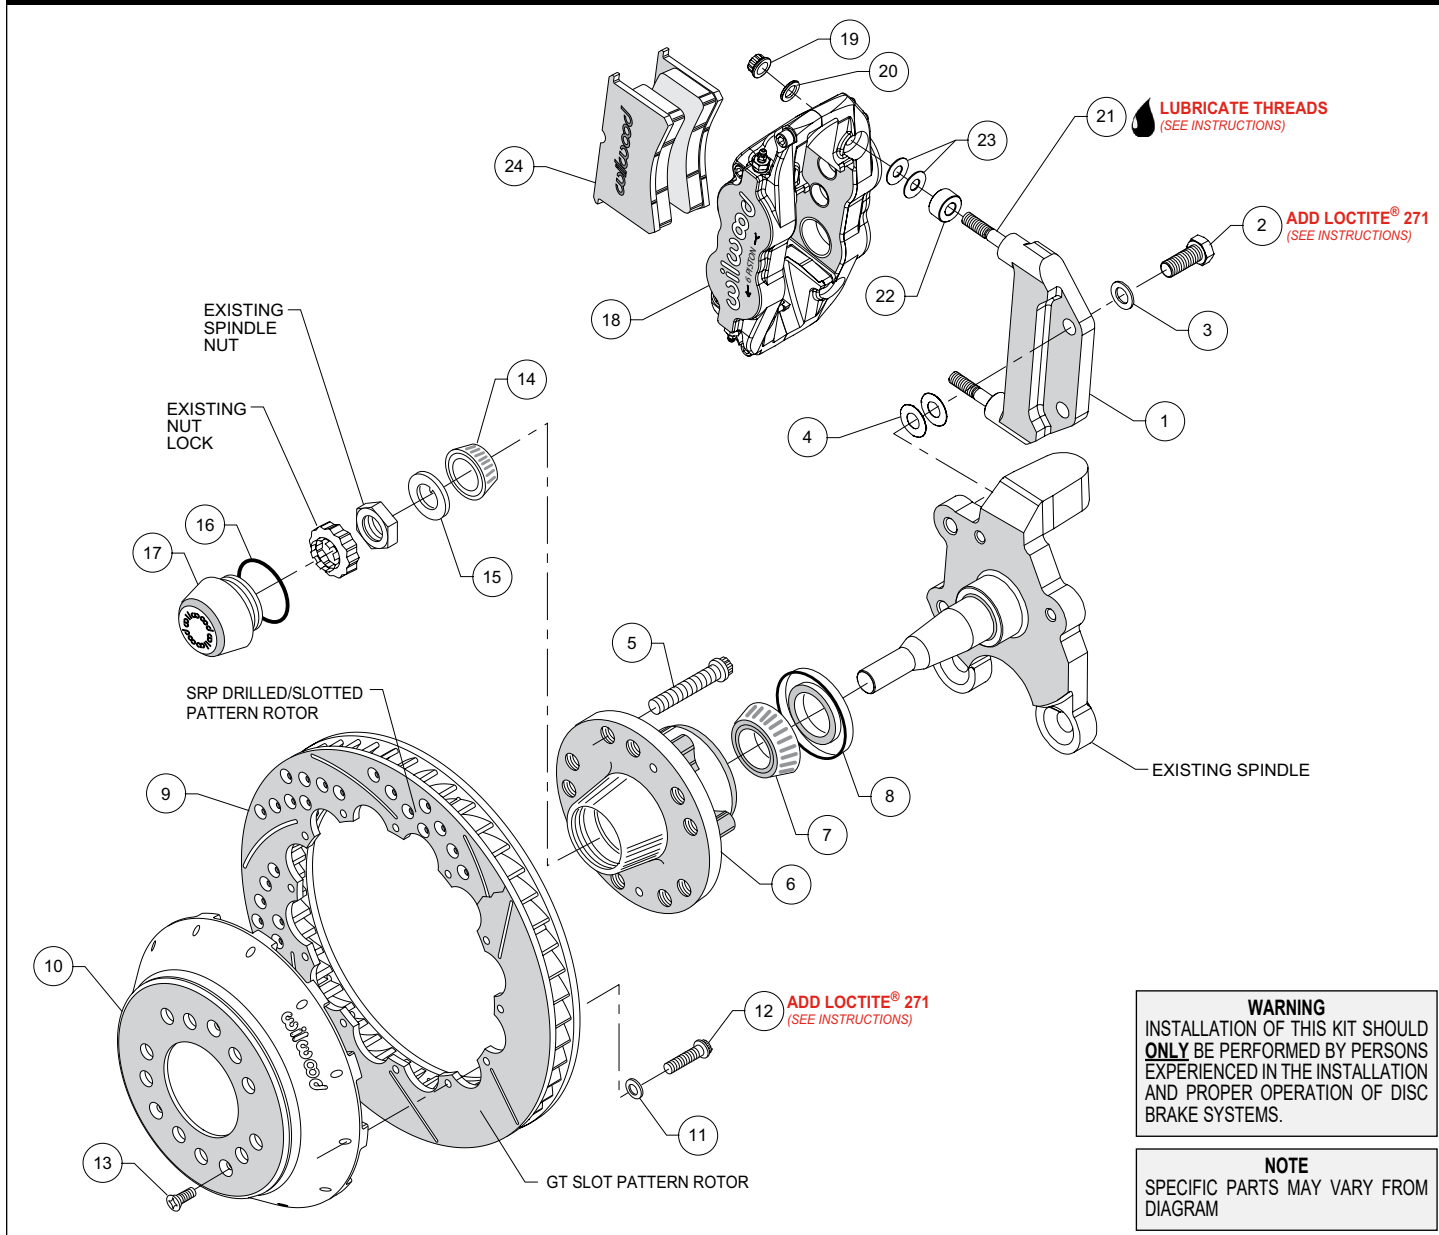
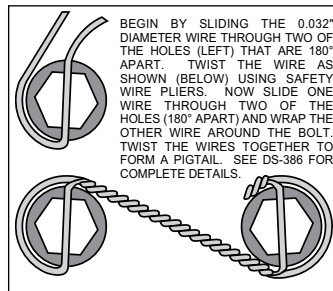

Figure 1. Typical Installation Configuration
Figure 3. Safety Wire Diagram
NOTE: Numbers in parenthesis refer to the parts list and Figure 1 on the preceding pages.
- The caliper mount bracket (1) should initially be installed with clean, dry threads on the mounting bolts. Orient the bracket as shown in Figure 1, and install using bolts (2) and washers (3). Initially place two .015" thick shims (4) on each bolt between the bracket and upright, Figure 1 and Photo 1. Temporarily tighten the mounting bolts. **NOTE:** The bracket must fit squarely against the mount bosses on the upright. Inspect for interference from casting irregularities, machining ridges, burrs, etc. Later, after the caliper alignment has been checked, the mount bolts will be secured using red *Loctite*® 271.
- Install wheel studs (5) into the hub (6), Photo 2. Torque to 77 ft-lb. **NOTE:** There are two five lug patterns in the hub (5 x 4.50 and 5 x 4.75). Ensure the correct hub stud pattern is being used to fit the wheel application.
- Pack the large inner bearing cone (7) with high temperature disc brake bearing grease (available from your local auto parts store) and install into the backside of the hub (6), Photo 3.
- Install the grease seal (8) by pressing into the backside of the hub (6), flush with the end of the hub, Photo 3.
- Orient the rotor (9) and the hat (10) as shown in Figure 1 and Photo 4. Attach rotor to hat using bolts (12) and washers (11). Apply red *Loctite*® 271 to the bolt threads and torque to 155 **in-lb** using a criss-cross pattern. For an added measure of security, the bolts may be safety wired using standard 0.032 inch diameter stainless steel safety wire as shown in Figure 3. Refer to Wilwood's data sheet DS-386 (available at www.wilwood.com/Pdf/DataSheets/ds386.pdf) for complete safety wire installation instructions.
- Pack the small outer bearing cone (14) with high temperature disc brake bearing grease and install into hub (6). Slide the hub assembly onto the spindle. Secure using spindle washer (15) and OEM spindle nut, Photo 5. Adjust bearings per OEM specifications. Install saved OEM nut lock (if any) and a new cotter pin (not included).
- Screw dust cap (17) into hub (6), Photo 6. Friction created by the o-ring (16) on the dust cap keeps it from unscrewing. **NOTE:** The O.D. of the existing OEM spindle washer may be larger than the I.D. of the dust cap not allowing it to seat against the hub face. Therefore, use the spindle washer (15) supplied with the kit instead of the OEM washer.
- Slide the hat/rotor assembly (9/10) onto the hub (6) taking care to align the small countersunk holes in the hat with the small threaded holes in the hub. **NOTE:** The hat must fit flush against the hub face or excessive rotor run out may result. Install three flat head screws (13) through the small holes in the hat, Photo 6, and torque to 85 **in-lb**.
- NOTE:** This kit contains distinct right and left hand calipers that must be mounted in a specific direction, as described below. Lubricate the caliper mounting studs (21) with lightweight oil. Initially place two .035" thick shims (23) and one spacer (22) on each stud between the caliper and the bracket, as shown in Figure 1 and Photo 7. Mount the caliper (18) onto the bracket (1) using
lock nuts (19) and washers (20), Figure 1. Ensure that the caliper is mounted so the largest pistons are at the rotor exit end of the caliper, in relation to the direction of rotor rotation. Temporarily tighten the lock nuts and view the rotor through the top opening of the caliper. The rotor should be centered in the caliper, Photo 8. If not, adjust by adding or subtracting shims (4) between the bracket and the upright. Always use the same amount of shims on each of the two mounting bolts. Once the caliper alignment is correct, remove the bracket mounting bolts one at a time, apply red *Loctite*® 271 to the threads, and torque to 65 ft-lb.